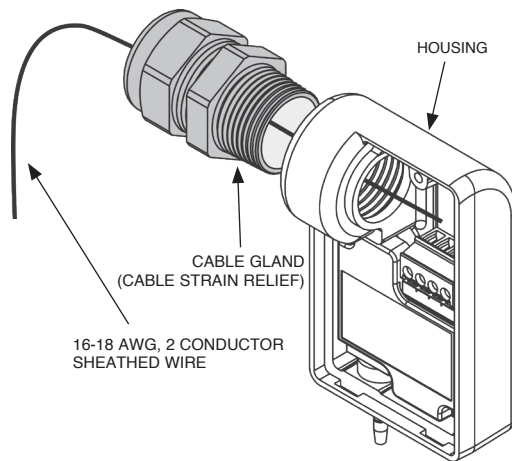

FIGURE 6-56
- b. Run a 16-18 AWG, 2 conductor power-limited cable through the cable gland and continue into the placement indicator switch. See Figure 6-56.